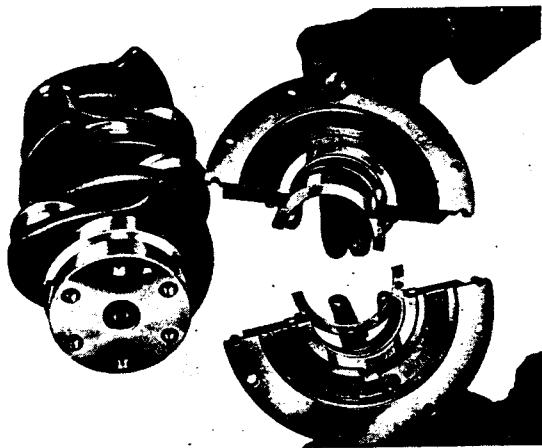

FIG. 154.
2. Rear Main Bearing Housing : Fig. 154.